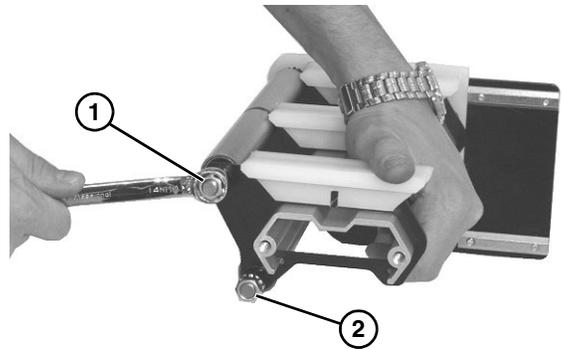

Figure 51
5. Remove upper nut (**Figure 51, item 1**) and spacer from end of axle shaft assembly.
6. Remove lower nut (**Figure 51, item 2**) and spacer from lower axle shaft assembly.